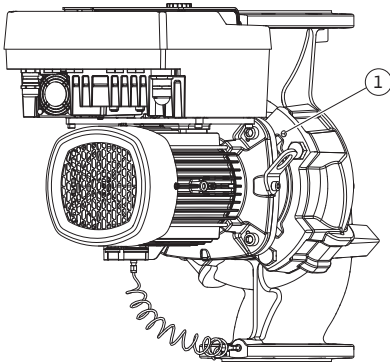

Fig. 10: Pressing off the motor impeller unit via threaded holes
5. Press the motor impeller unit (see Fig. 4) off the pump housing. Depending on the pump type (see Fig. I ... Fig. IV), there are two different approaches. For the pump type (Fig. III and Fig. IV), loosen the screws (Item 29). Use the two adjacent threaded holes (Fig. 10, Item 1) and use suitable screws provided on-site (e.g. M10 x 25 mm). For the pump type (Fig. I and Fig. II), use the two threaded holes M10 (Fig. 104). Use suitable screws provided on-site (e.g. M10 x 20 mm). The slots (Fig. 104, Item 2) can also be used for pressing off.